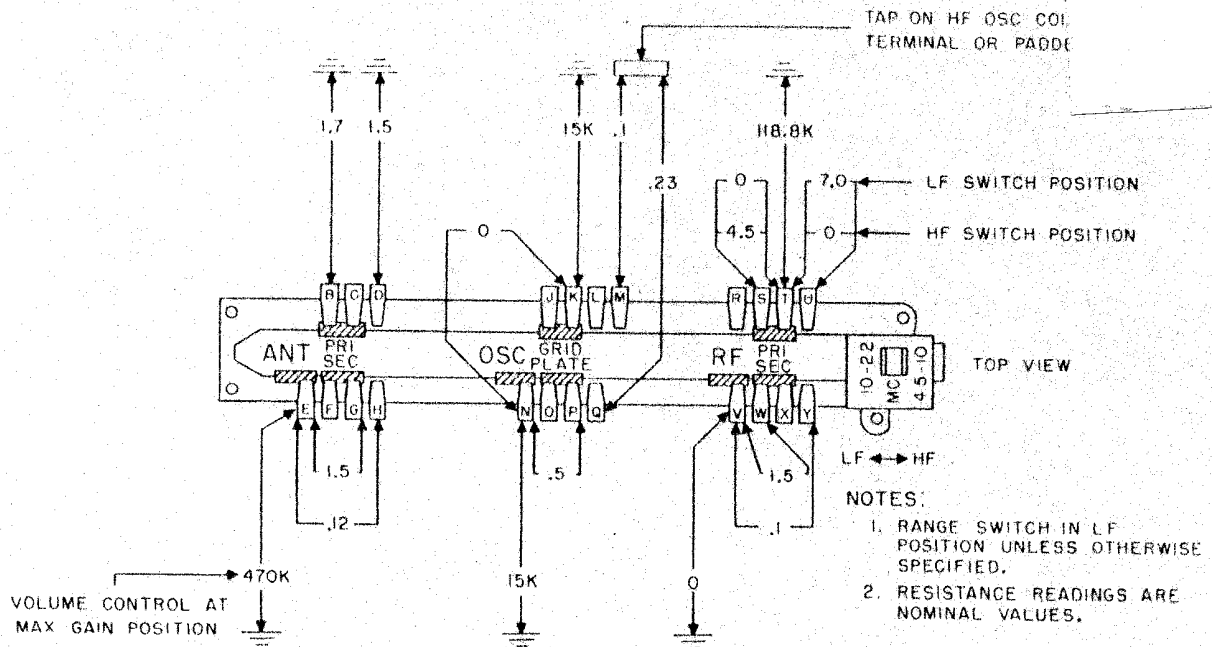

Figure 12. Point-to-point Resistance Measurements on Rangeswitch.
f. A diagram of point-to-point resistance measurements on the r-f range switch is provided to locate defective coils easily. See figure 12. It is advisable